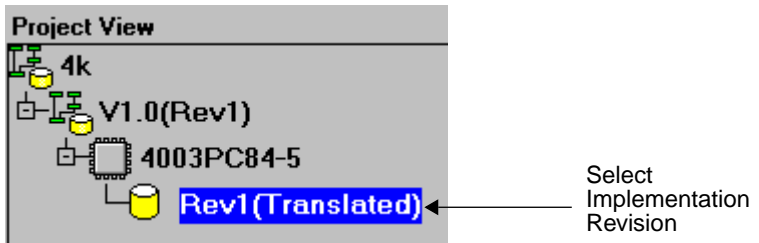

Figure 3-21 Selecting an Implementation Revision
1. Select the desired Revision in the Project View (in the Design Manager Main Window) as shown in Figure 3-21.